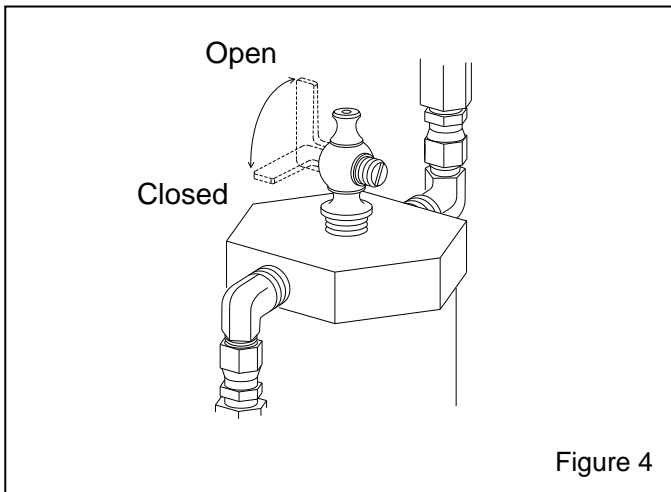

Figure 4
3.1.3 Make sure that the safety petcock located on the inlet valve is open. The petcock is open when the petcock lever is in-line with the petcock, as shown in Figure 4.